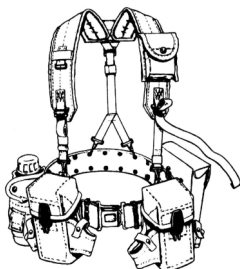

Fig 8-10 Typical Fighting Load
**Fighting Load.** The typical fighting load is made up of essential items of individual clothing, equipment, weapons, and ammunition that are carried by you to complete the immediate mission of your unit. (See Figure 8-10)